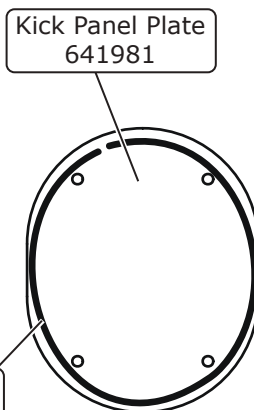

Figure 1
2. Apply a bead of silicone around the perimeter of the supplied kick panel plate, then install it over the kick panel opening using (4) M6.3 x 16mm hex head screws with washers as shown in Figure 1 and Photo 2, below.